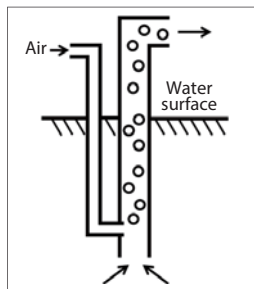

Figure 1: Airlift pump
- Air is flowed into a (lifting) pipe placed under water as shown in Figure 1. Water inside the pipe is mixed with the air, becomes less dense, and is lifted upward.